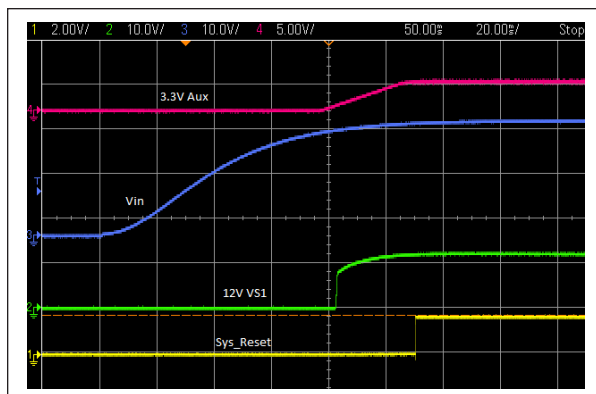

Figure 3
*SYSRESET\** – Indicates that all Outputs are in or above their nominal range. Signal Normally Open. See Figure 3.